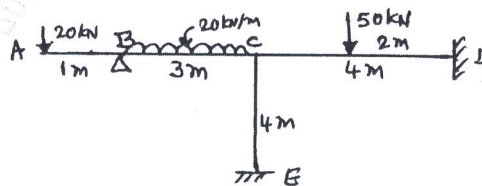

Fig.Q9
- 9 Analyze the frame shown in Fig.Q9 by using slope deflection method. Draw BMD and elastic curve.